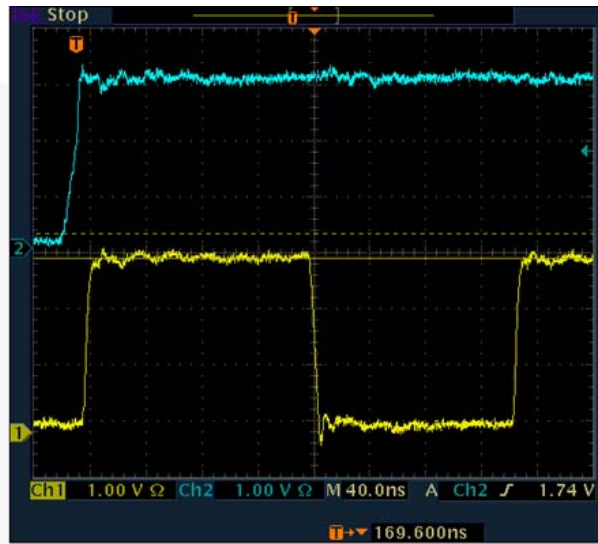

Figure 13. Scope Shot of I/O and Clock Signals
Due to open-drain technology, hosts and SIM cards do not use push-pull drivers on the I/O pin. Logic LOWs are pulled down ( $I_{sink}$ ), while logic HIGHs are “let go” (3-state). During a logic LOW on the I/O pin, both series NpassGates are turned on and act like a very low resistive short between the host and the SIM card. When the host or card lets go of a previously held LOW on the I/O pin, the rise time is largely determined by the RC time constant, where R is the internal pull-up resistor (10K $\Omega$ ) and C is the I/O signal trace capacitance. The FXLA2203 acts as a very low resistive short between the host and SIM card (during a LOW) until either of the port’s  $V_{CC/2}$  thresholds are reached. After the RC time constant has reached the  $V_{CC/2}$  threshold of either port, the port’s edge detector triggers both dynamic drivers to drive their respective ports in the LOW-to-HIGH (LH) direction, accelerating the rising edge. The resulting rise time resembles the CH2 waveform (blue) of Figure 13. Effectively, two distinct slew rates appear in the rise time. The first slew rate (slower) is the RC time constant of the I/O signal trace. The second slew rate (faster) is the dynamic driver accelerating edge.